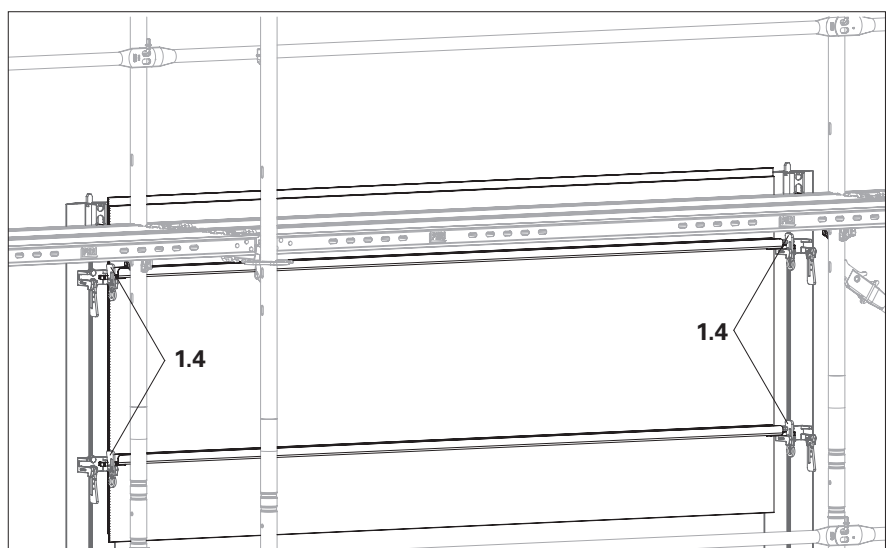

Fig. C1.06
3. Swing up the wedges (**1.4**), lock the lugs and secure with a jarring blow. (Fig. C1.06)